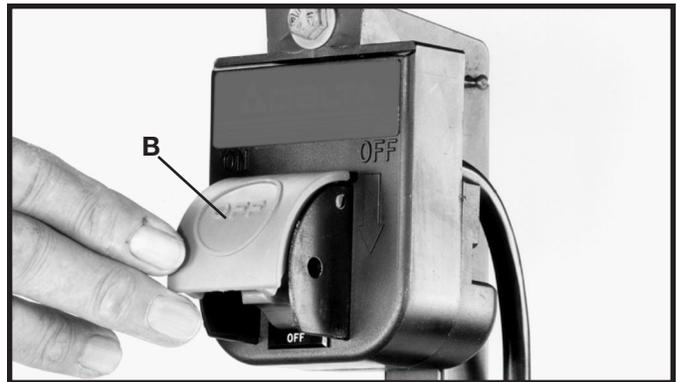

Fig. 32
2. To turn the jointer “OFF”, push down on switch shield (B) Fig. 32, as shown.